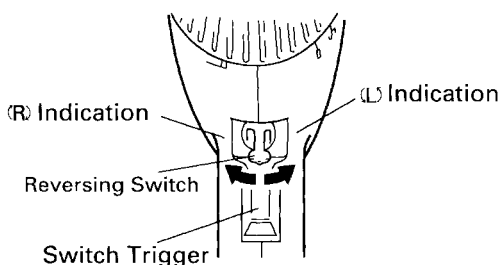

Fig. 11
When the reversing switch is set to (R) the bit rotates clockwise when viewed from the drill rear. When set to (L), the bit rotates counterclockwise. (Fig. 11)